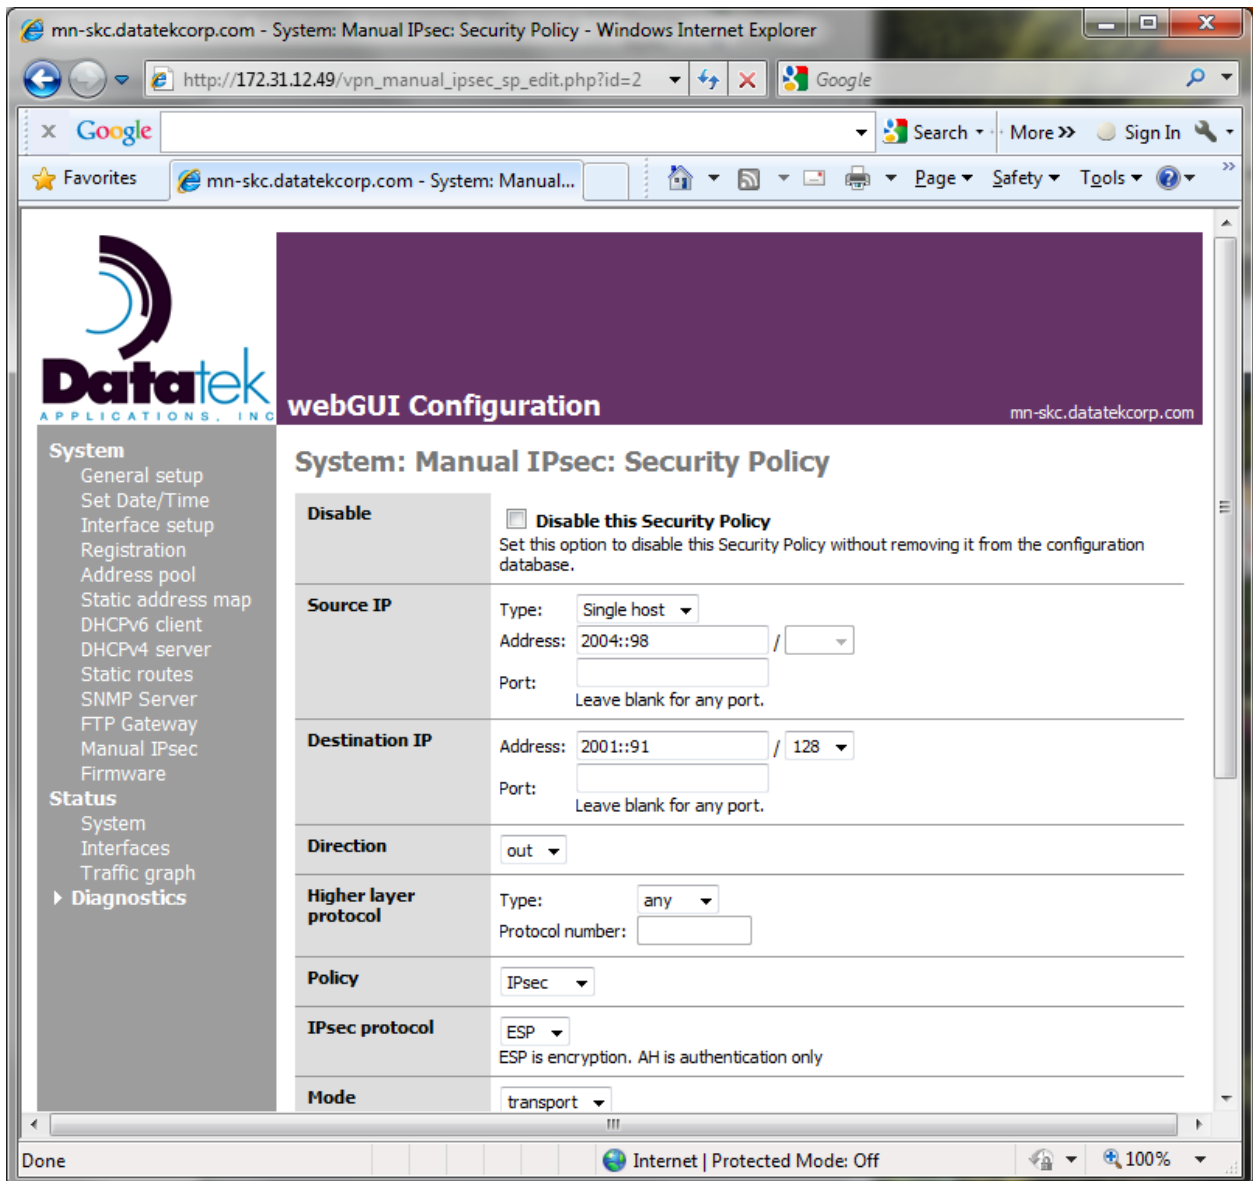

Figure 23. Manual IPsec: Security Policy Edit Screen
**Figure 23. Manual IPsec: Security Policy Edit Screen** and **Figure 24. Manual IPsec : Security Policy Edit Screen continued** are used to add a new Security Policy (SP) or edit an existing SP. Selection parameters specified on this form are matched against fields in the IP header and upper layer protocol header of IP packets. Examples of some of these selection parameters are: